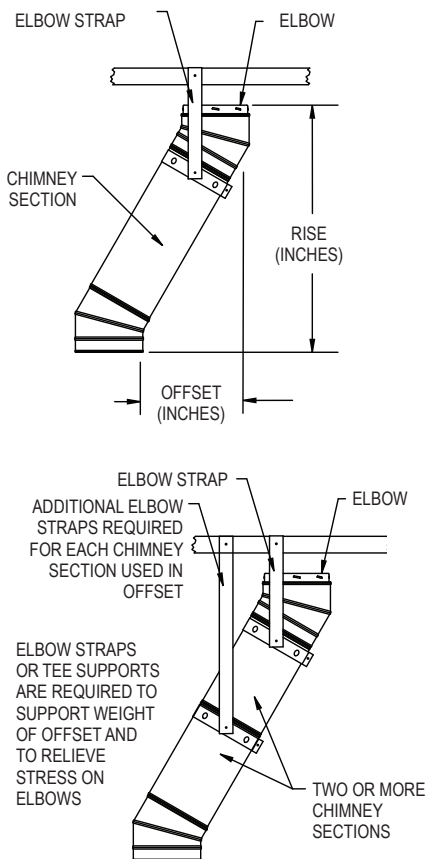

Figure 17
1. Attach Elbows: Attach Elbow to Chimney Section or other Elbow by twisting clockwise until they lock firmly. Attach one Elbow to the Chimney Section below, and align it for the offset. Elbows for DuraTech have a swivel feature that allow for 360° rotation at their base for ease of installation. Refer to **Table 3** to determine the required offset length and attach an appropriate length (or lengths) of Chimney Section(s) above the Elbow. Important: For each chimney pipe section in the offset (between the elbows), there must be an Elbow Strap, Tee Support, or similar support method to support the weight of the pipe and to relieve stress on the Elbows. Attach the second Elbow above the Chimney Section to complete the offset (**Fig.17**).
2. Secure Offset: Place the Elbow Strap's band around the angled portion of the top Elbow, then tighten the nut and bolt until the clamp is firm. There are both dedicated diameter, and Universal components available, Wrap the Elbow Strap end over an adjacent joist or rafter and secure it with at least (2) 8-penny nails or (2) #8, 1-1/2 screws. Do not
add more Chimney Sections until the Elbows are supported. Be sure that the chimney remains vertical. If there is more than one Chimney Section between the Elbows, install a second Elbow Strap around the joint of the two Chimney Sections (**Fig.17**).